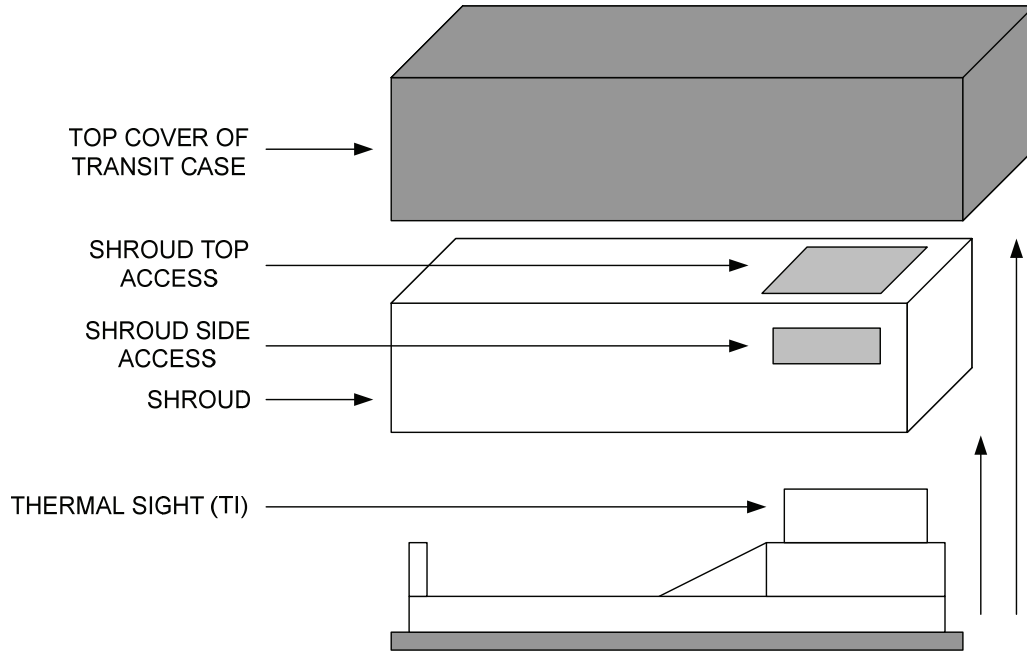

Figure 1. Thermal sight (TI) with top cover of case and shroud removed.
- a. Remove top cover of transit case and shroud from TI as shown in figure 1.